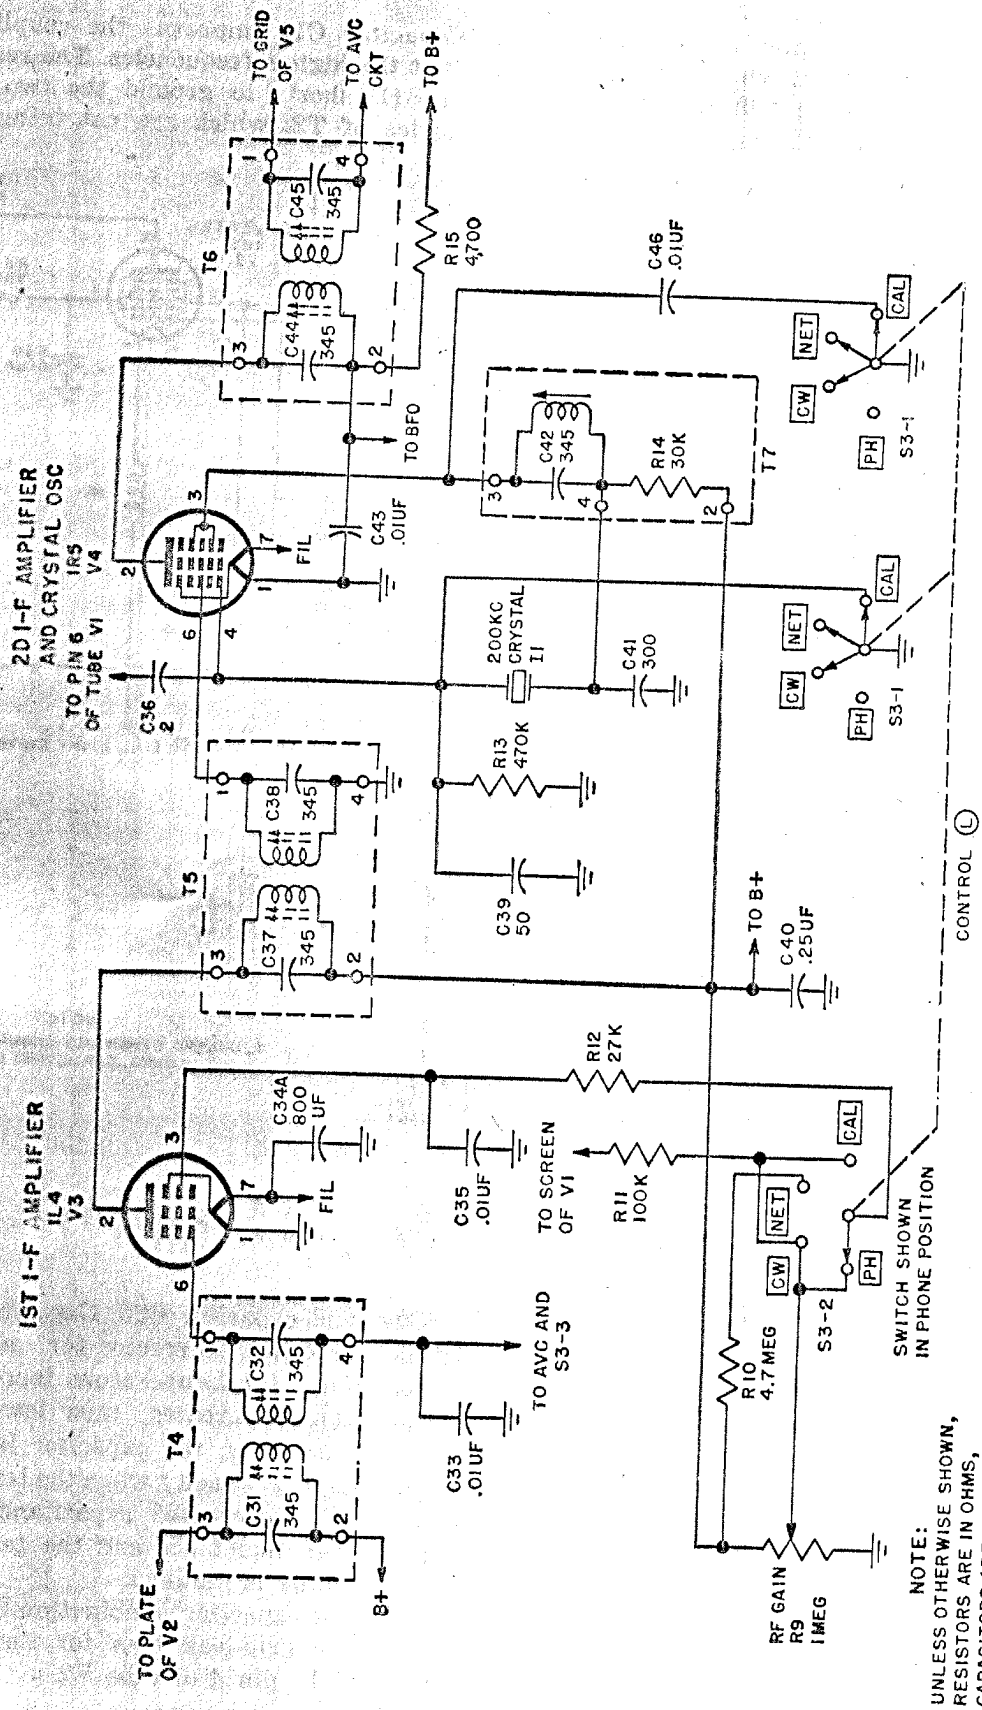

Figure 59. I-f amplifiers, simplified schematic.
g. The h-f oscillator is tuned by \odot TUNING capacitor C7C so that it is always 456 kc higher in frequency than the signal frequency. Thus, when the received signal from the r-f amplifier is applied to grid 3, pin 6 of tube V2, the two frequencies will beat together, forming sum and difference frequencies. The tuned primary of i-f transformer T4 in the plate of the mixer section is resonant at the difference frequency of 456 kc and, therefore, allows only this frequency to continue on to the first i-f amplifier V3 (fig. 59). The primary and secondary of i-f transformer T4 are shunted by capacitors C31 and C32, respectively. These capacitors, combined with adjustable powdered iron cores inserted in the primary and secondary coils, tune the transformer to 456 kc.
84. I-F Amplifiers V3 and V4 (fig. 59)